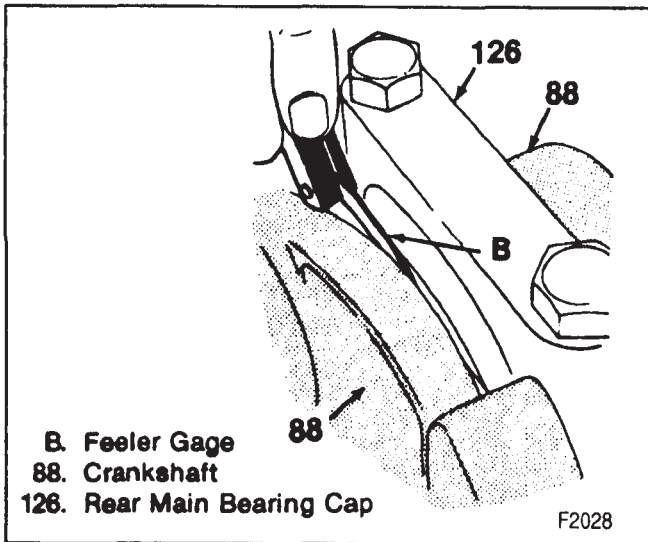

Figure 28—Measuring Crankshaft End Play
- C. With the crankshaft wedged forward, measure at the front end of the rear main bearing with a feeler gage (figure 28). The proper clearance is 0.005-0.010 inch.